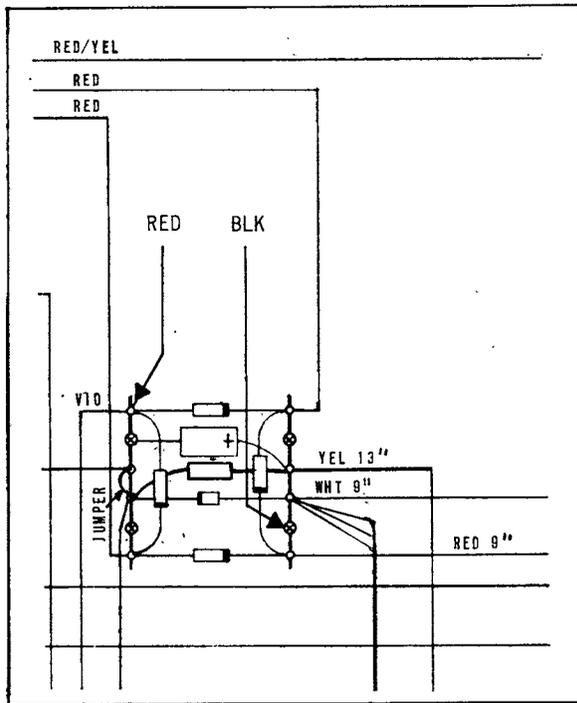

Figure A-19.
- e. Remove 5-prong plug from red and black wire leads attached to voice generator assembly and connect ends of these wires to the organ power supply terminal strip as shown in Figure A-19.